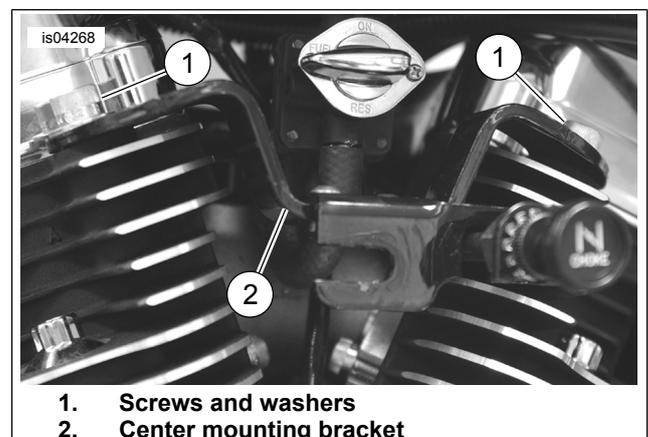

Figure 3. Remove Center Mount Bracket
4. See Figure 3. Remove the two screws and washers (1) securing the center mounting bracket (2) to the engine cylinder heads and remove bracket. Discard screws and washers.